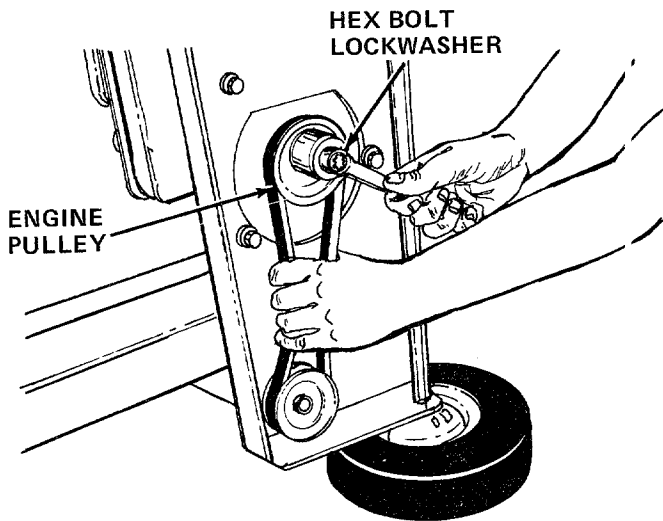

FIGURE 14
- Using a 9/16" wrench, remove the engine pulley by removing the hex bolt and lock washer. See figure 14. Slip the pulley and belt off.